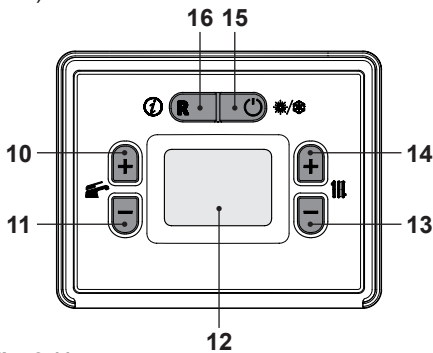
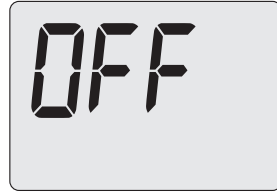

Fig. 2.11
Fig. 2.12
Press the key 15 (Fig. 2.11) until the message **OFF** appears on the LCD display (Fig. 2.12).